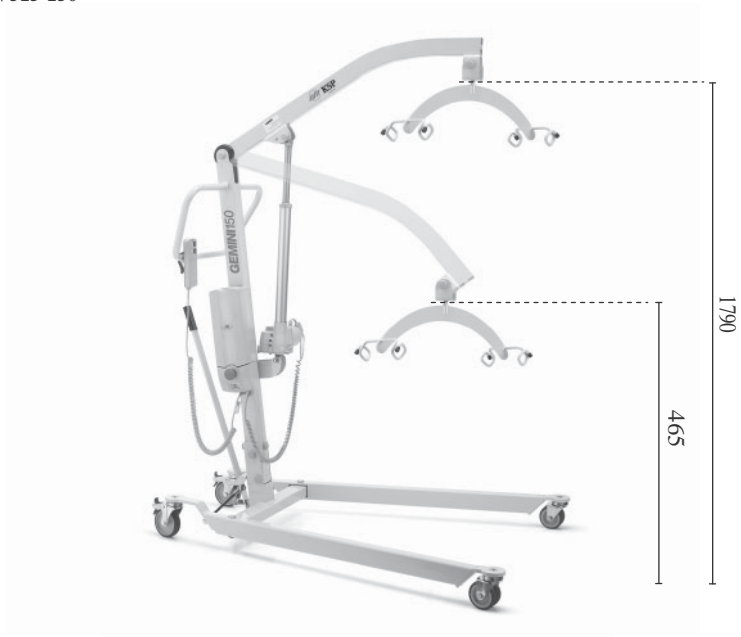

Fig. 11
- Art. N 9603 Sling with cervical support for quadriplegics max. load 170 Kg. (Fig. 11)